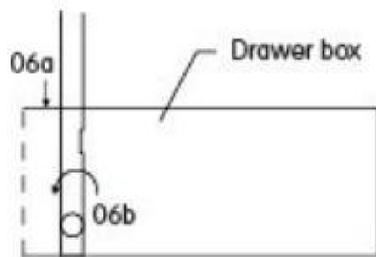

Fig. 5
- 6\_Connect cross broom 5K (see Figs 5, 6, 7).
- 6a\_Slide broom 5E into the drawer box (Fig. 5).
- 6b\_Rotate so the connection 5E–5K faces outward (Fig. 5).